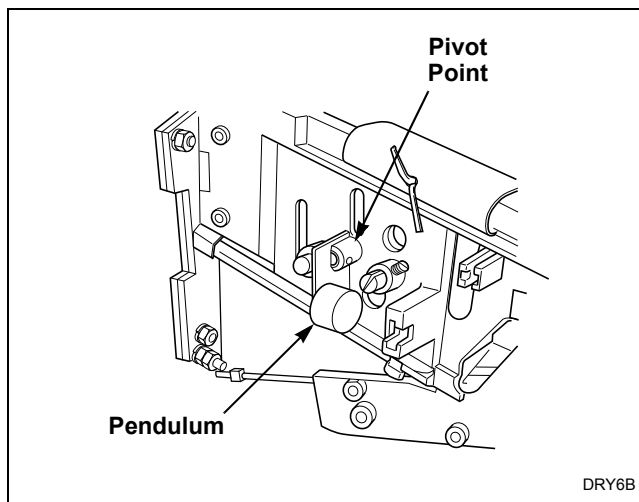

Figure 21
- Check coin return pendulum to verify it swings freely. If pendulum does not swing freely, spray pendulum pivot point with Teflon based lubricant and move pendulum back and forth two to three times. An additional application of Teflon based lubricant may be necessary to ensure that pendulum swings freely. Refer to *Figure 21*.